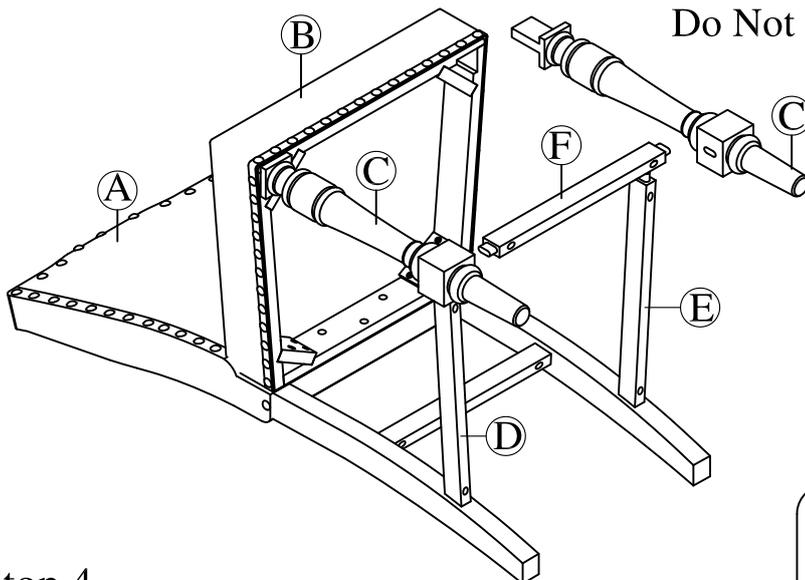

Fig.4
Repeat step 3 to attach the remaining Side Stretcher (E) and Front Leg (C) to Cushion Seat (B). At the same time insert Front Stretcher (F) into Front Legs (C) as shown on Fig.4.